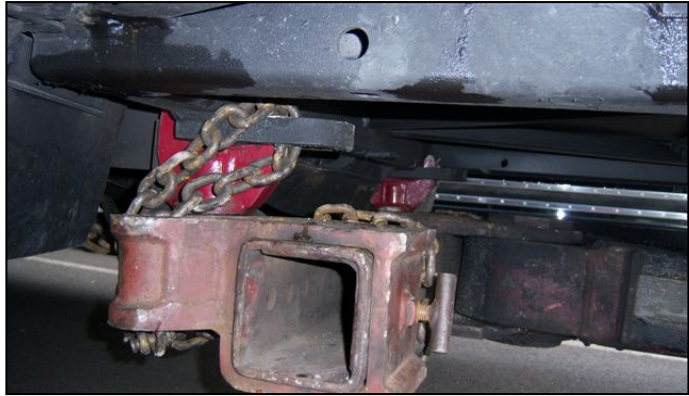

FIGURE 37
8. Tie the two choke chains together to secure the tow eyes to the tow bar attachment (Figure 37).